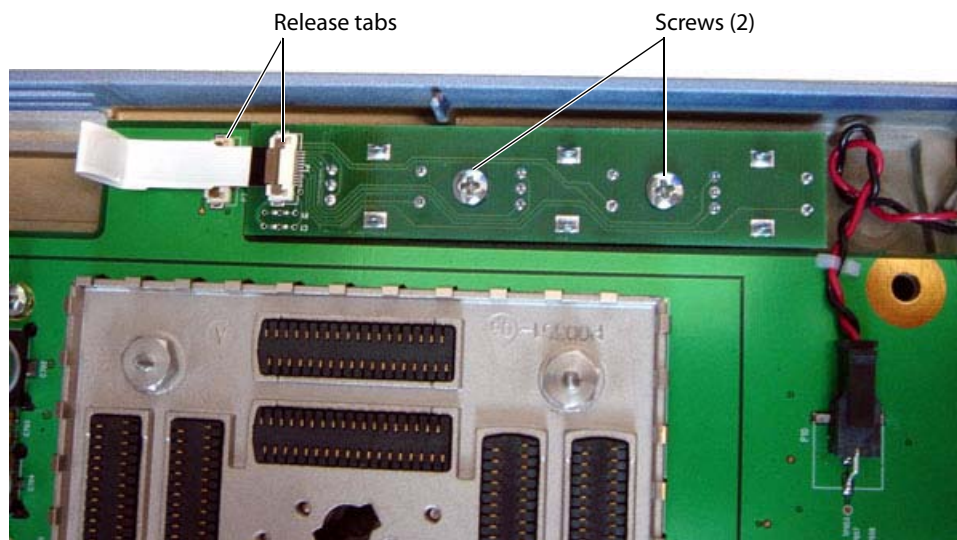

Figure 7.12 TGC Removal
- 2 Remove the flex cable from the TGC PCB by lifting on the flex release tab. See Figure 7.12.